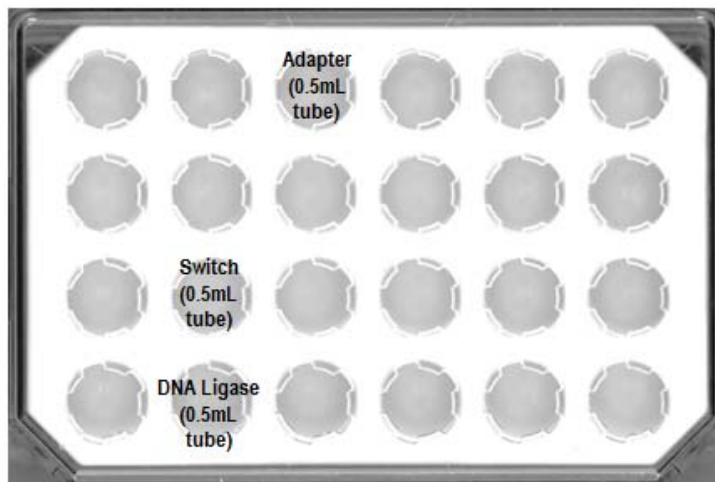
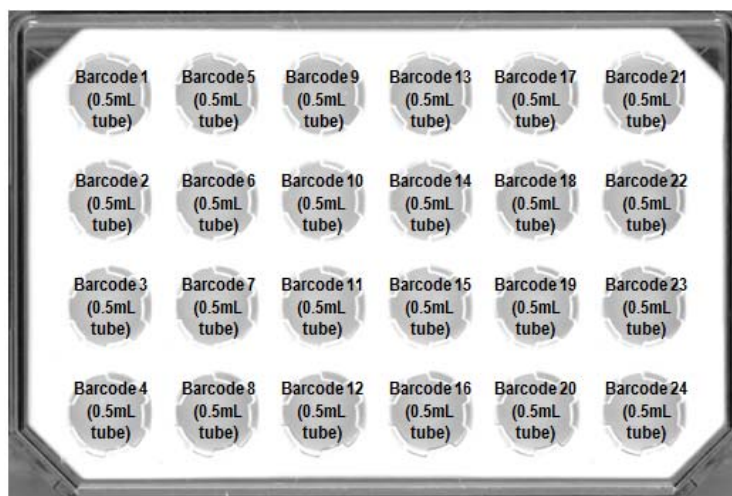

Figure 22: Well Map of the Eppendorf IsoRack-Reagents, with Switch Solution, DNA Ligase and Adapter for the Ligation Setup step.
Figure 23: Well Map of the Eppendorf IsoRack-Barcodes, with diluted Barcodes for the optional Barcode Ligation Setup.
- c. Make sure the 0.5mL tubes of Switch Solution, barcoded or non-barcoded adapters and DNA Ligase are the IsoRack chilling blocks according to the reagent setup diagram in Figure 22 and Figure 23 (for bar coded adapters).